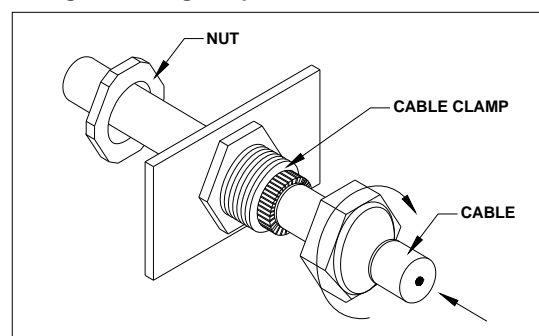

Figure 5. Installation Example of Cable Clamp
- Route wires through the knock-outs and clamps refer to installation example (see Figure 5).